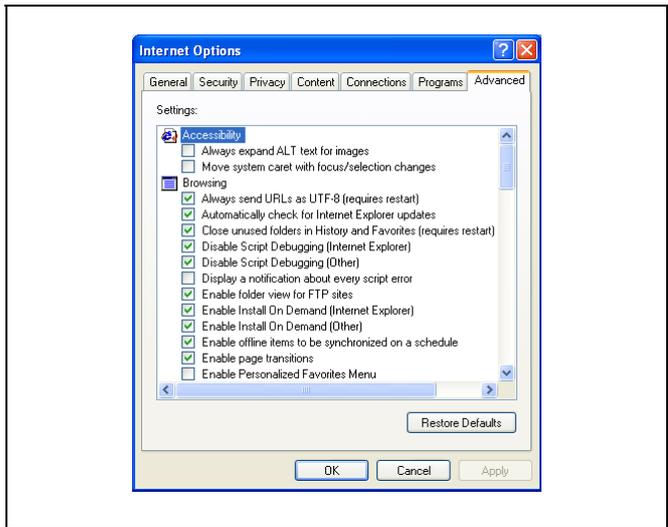

Fig. 3.12 'Enable Folder View for FTP Sites' Setting
3.12 Setting Up FTP Access – Figs. 3.12 to 3.15
- 'Enable folder view for FTP sites' is ticked – see Fig. 3.12.